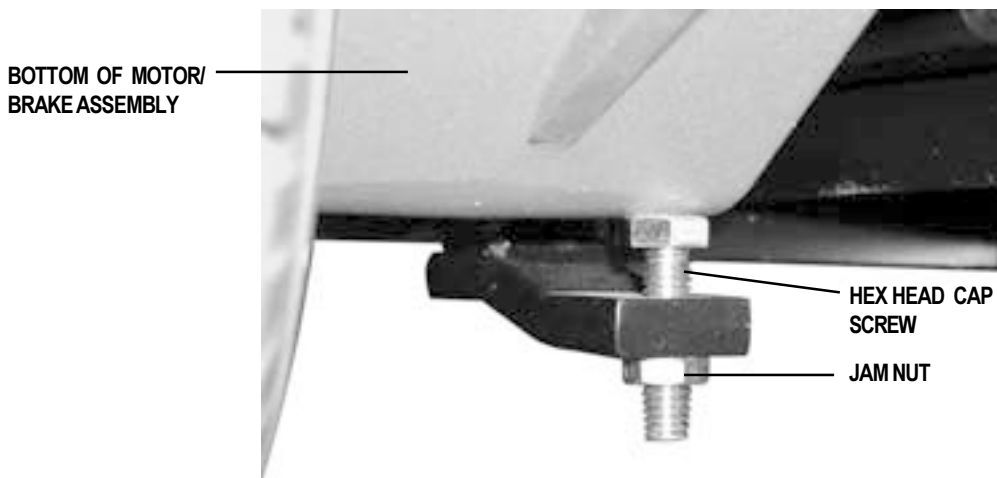

Figure 14. Anti-Tip Wheel Height Adjustment
2. Locate the jam nut and hex head cap screw on the anti-tip assembly. See figure 14.